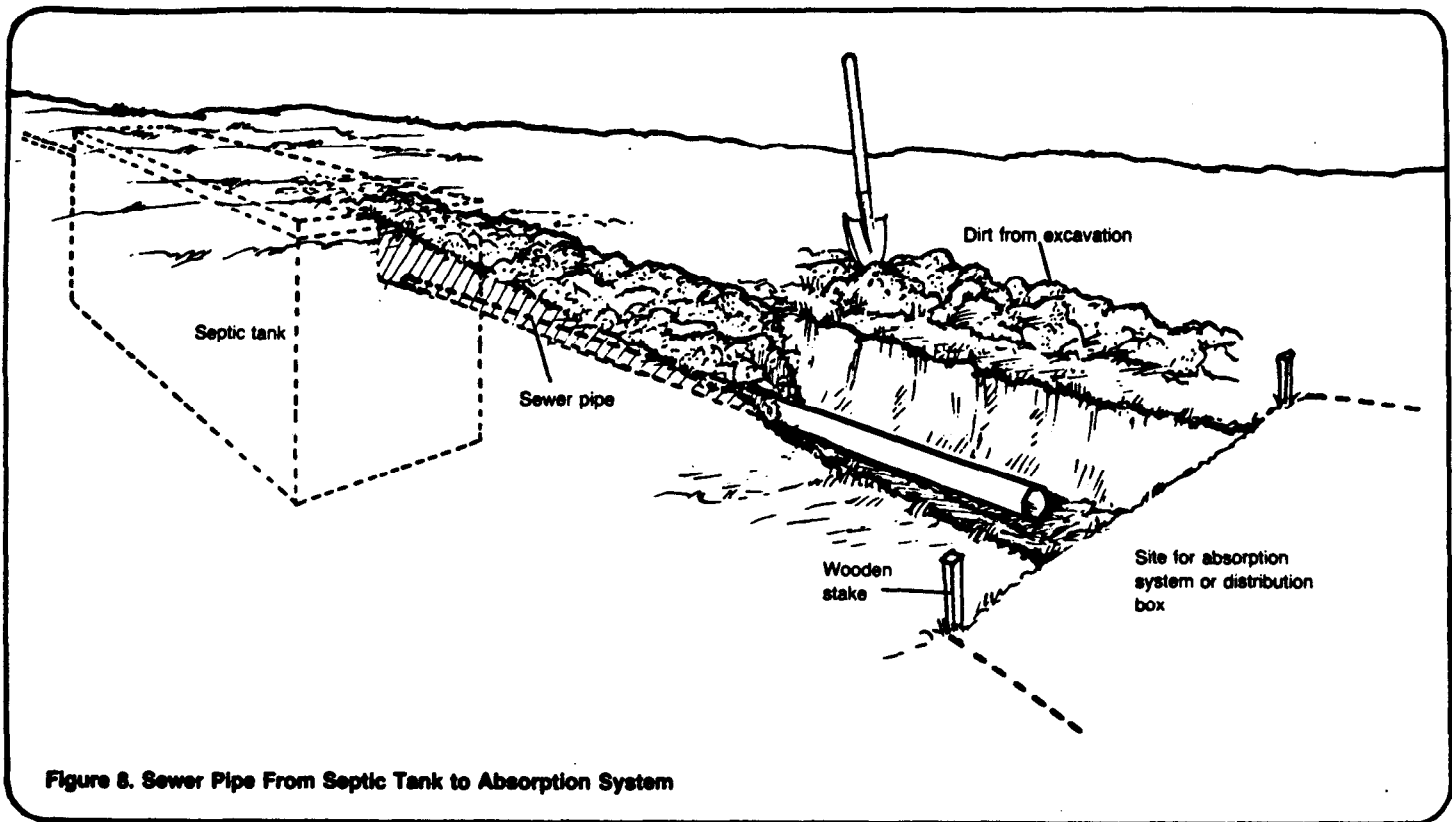

Figure 8. Sewer Pipe From Septic Tank to Absorption System
2. Use the location map similar to Figure 1 and a measuring tape to determine the correct location for the absorption system, including distribution box or "cross" or "T" fitting, if applicable, and mark it on the ground with wooden stakes or pointed sticks. Mark the trench line for the sewer pipe from the septic tank to the site of the absorption system. Be certain the locations of the trench line and absorption system are correct before beginning construction as shown in Figure 8.